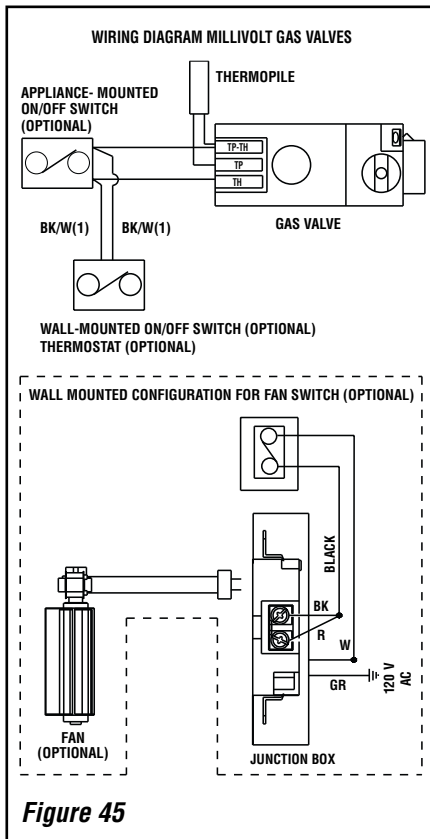

Figure 45
A. Millivolt Wiring (See Figure 45) –
a. Standard OFF/ON Switch - Install the OFF/ON burner control switch (rocker switch) as shown in *Figures 45, 46 and 49*.
b. Optional Control Switch (OFF/ON wall switch, wall thermostat or remote control receiver). Install snap bushing (provided in Electrical Outlet Kit) into control switch knockout in side panel (see *Figures 13, 14 and 48*). Wire the optional control switch within the millivolt control circuit (as shown in *Figure 45*) using the 15 feet of 2 conductor wire supplied (route wires through the snap bushing to the optional control switch). Mount the optional control switch or wall thermostat in a convenient location on a wall near the fireplace.